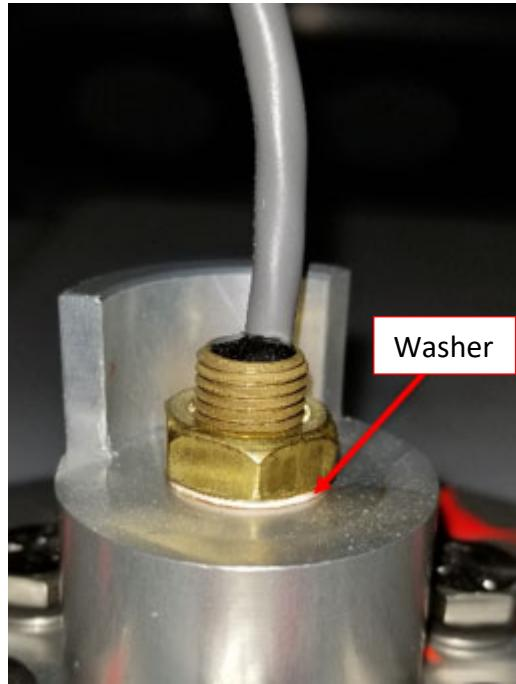

Figure 1 – Washer shown under jam nut.
2. Visually inspect the top of the PROBE, FUEL LEVEL SENSOR for a washer underneath the jam nut, Figure 1: